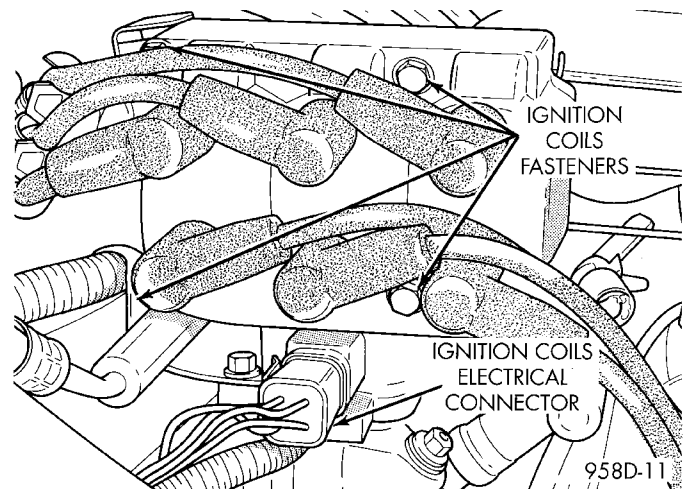

Fig. 11 Ignition Coil Removal
- (1) Drain cooling system until coolant level is below sensor. Refer to Group 7, Cooling System.
- (2) Remove electrical connector from coil (Fig. 11).
- (3) Remove coil mounting screws.
- (4) Rotate coil away from engine coolant temperature sensor.
- (5) Disconnect electrical connector from engine coolant temperature sensor.
- (6) Remove sensor from engine.